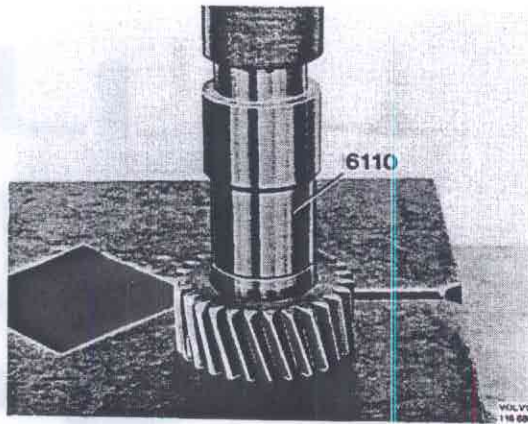

Fig 46-146 Pressing in the bearing
4. Press the outer rings into the drive gear with 6110, Fig. 46-146.